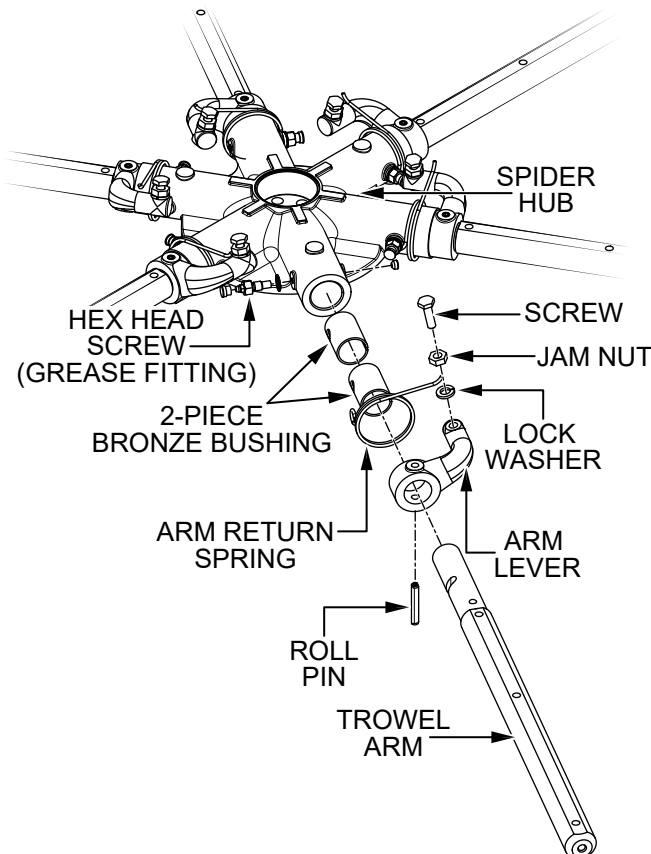

Figure 46. Trowel Arm Removal
2. Each **trowel arm** is held in place at the **spider hub** by a hex head screw (Zerk grease fitting). Remove the **hex head screw** (Figure 46) from the spider hub.
3. Remove the **trowel arm** (Figure 46) from the **spider hub**.